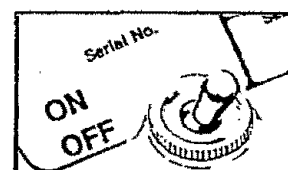

Figure 10
5. Stop engine by moving the ignition switch to the "OFF" position. Figure 10.